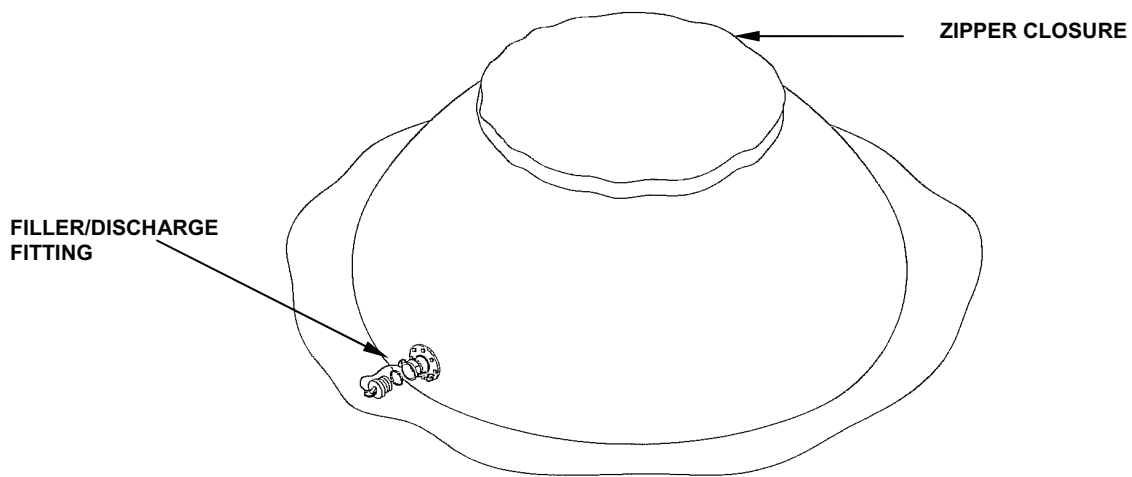
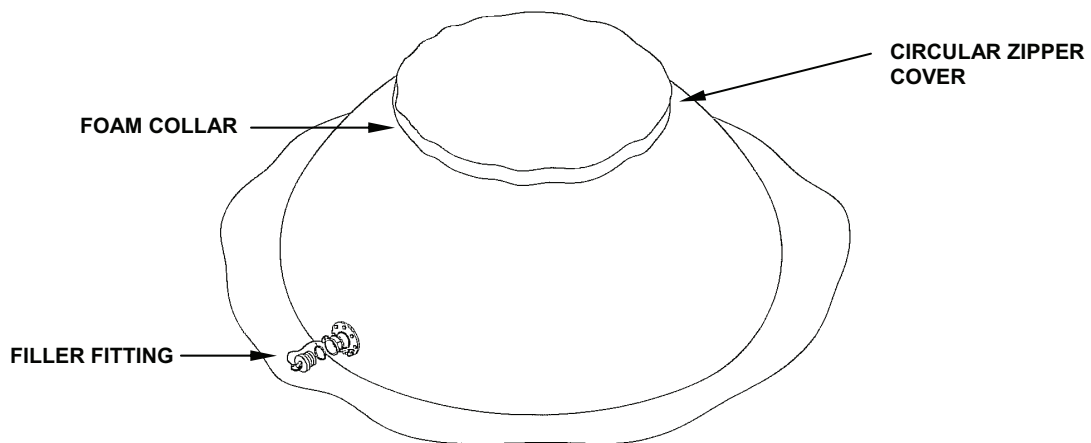

Figure 1. Collapsible Fabric Product Tank.
Figure 2. Collapsible Fabric Settling Tank.
1. Make sure the watertight closure is properly installed and the zipper works properly to decrease water evaporation from the collapsible fabric product tank and settling tank. Refer to Figure 1 and Figure 2.
2. Make sure that the filler and discharge fittings are free of sand or dirt before filling or drawing water from the tank. Refer to Figure 1.